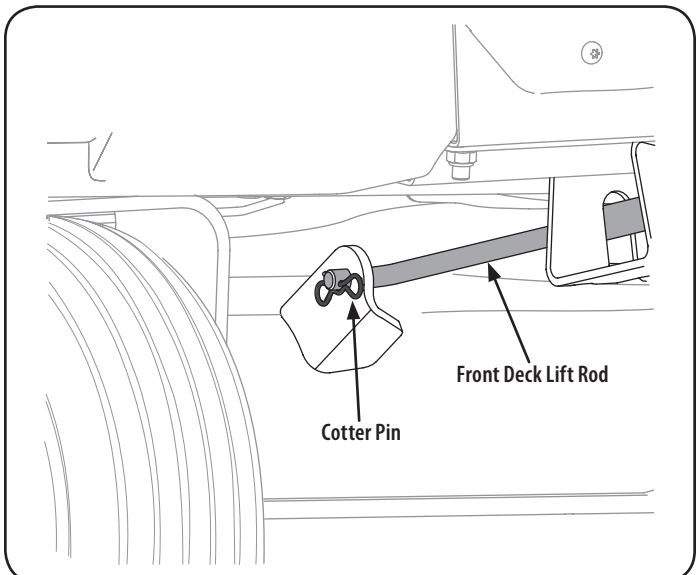

Figure 34
- Pull the cotter pin out of the front deck lift rod securing it to the deck. See Figure 34. Slide the deck lift rod out of the front hanger bracket.
6. Reinstall the front deck lift rod and secure in place with the cotter pin. Refer to Figure 34.